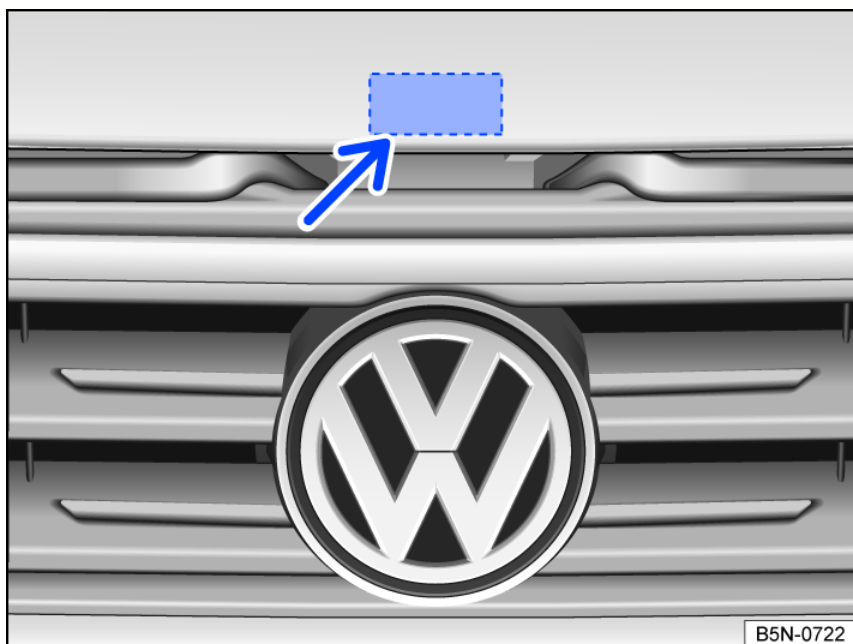

Fig. 194 Above the radiator grille: Opening lever for the hood.
- Lift the hood, press the opening lever, and open the hood all the way fig. 194. The hood is held open by the gas-pressure strut.